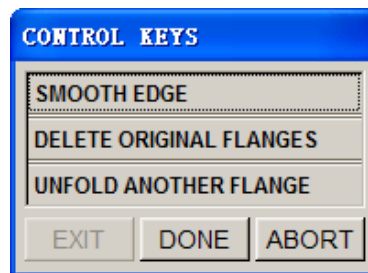

Figure 6.1.8 Control Keys dialog box
- Select an option from the CONTROL KEYS dialog box as illustrated in Figure 6.1.8.